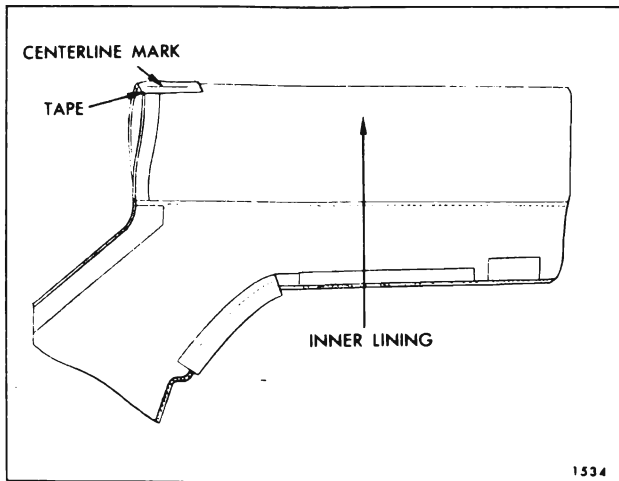

Fig. 13-23 — Marking Folding Top Material
23. Fold new top material in half so that inner lining of top material is exposed (Fig. 13-23). Install a 6" piece of tape on inner surface at
centerline fold of new top material (Fig. 13-23). Using a pencil, mark the approximate centerline of new top material along entire length of tape.